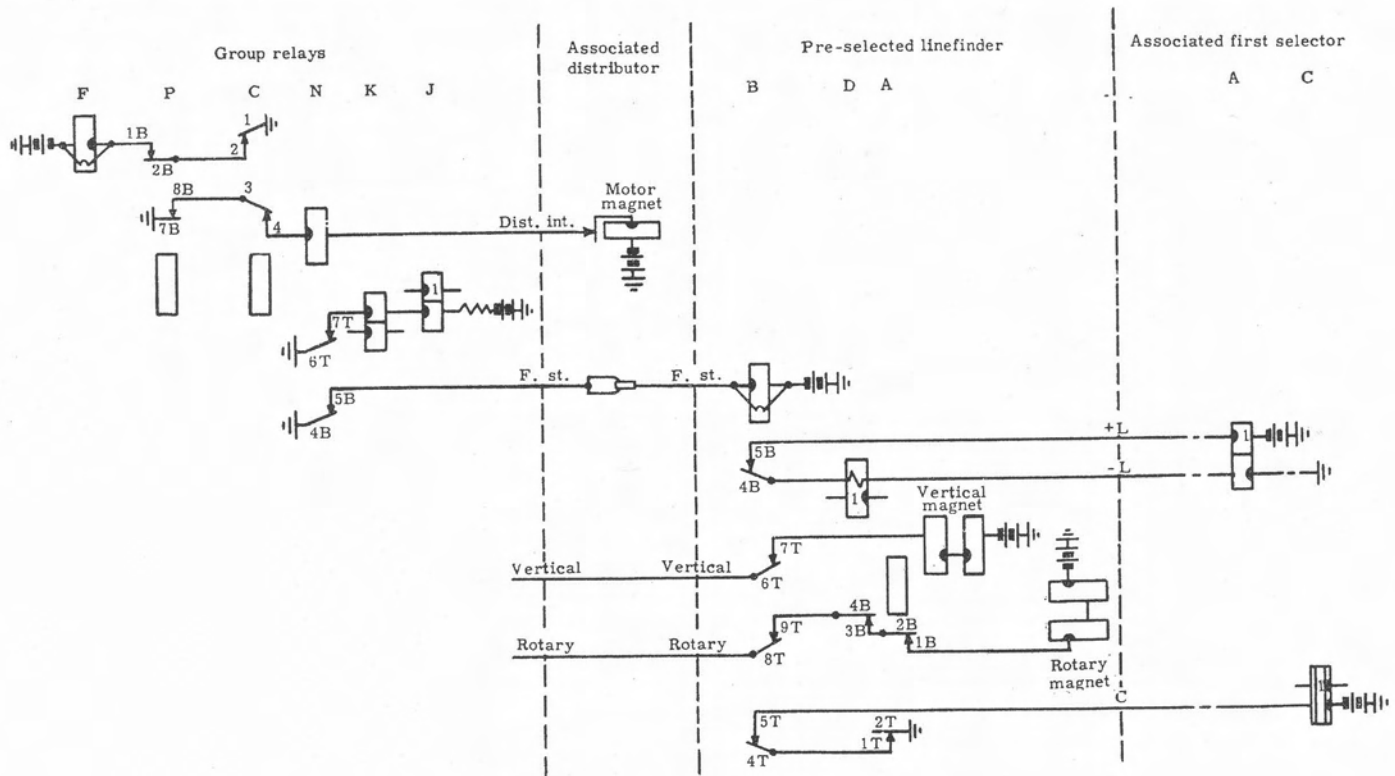

Figure 15. Group relays start the preselected linefinder.
4.2 Starting. The operation of a group's relay C indicates that a linefinder of that group must find the calling line. Relay C operates relay F (figure 15) and connects relay N in series with the distributor motor magnet. Relay N operates (but the distributor motor magnet does not). Relay N closes a circuit through relay K winding 2 and relay J winding 2. Relays K and J do not operate but, being pre-energized, will operate quickly when needed. Also, through the FST (finder start) wiper of the distributor, relay N operates relay B of the preselected linefinder. Linefinder relay B operates associated first-selector relays A and C and connects the preselected linefinder's vertical and rotary magnets to the group relays. Since only the preselected linefinder's vertical and rotary magnets are connected to the group relays, the preselected linefinder is the only one that can be stepped by the group relays.